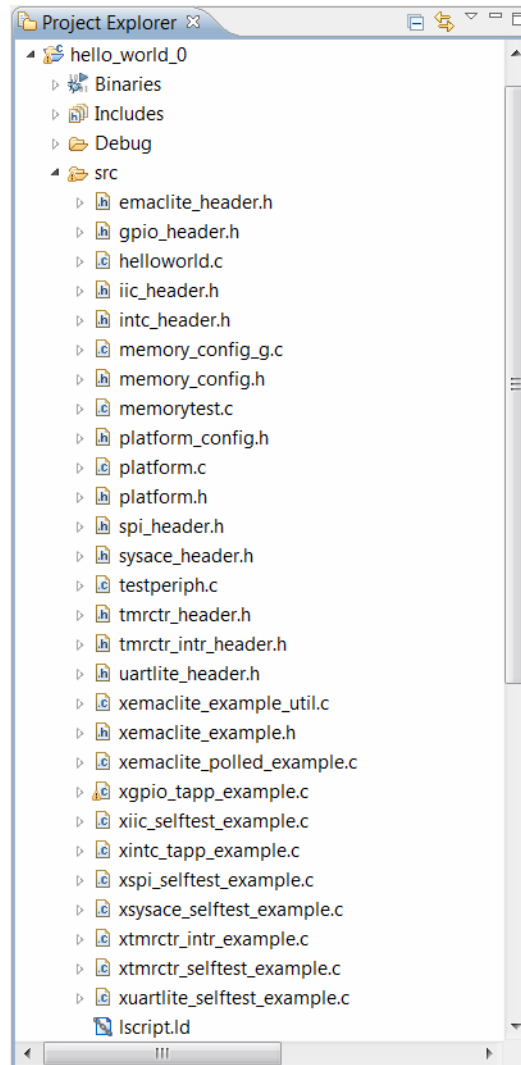

Figure 5-4: Source Files in hello\_world\_0
- Drag and drop source files from `memory_tests_0` and `peripheral_tests_0` into the `src` subfolder of the `hello_world_0` folder. Figure 5-4 shows the source files that the directory should contain.